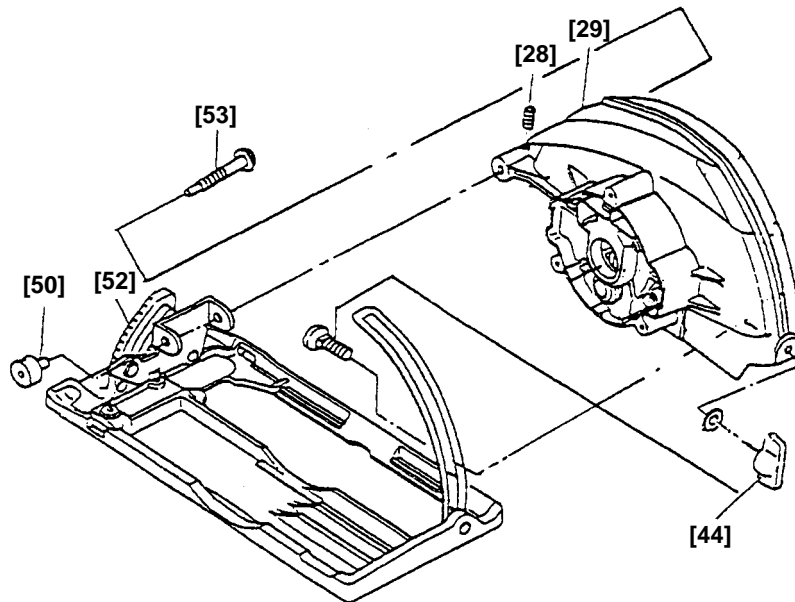

Fig. 7
(7) Removing the Base Ass'y [52] (Fig. 7)
- (c) Loosen Adjusting Screw (A) [53] and remove it from the Gear Cover Ass'y [29]. Then the Base Ass'y [52] can be removed.